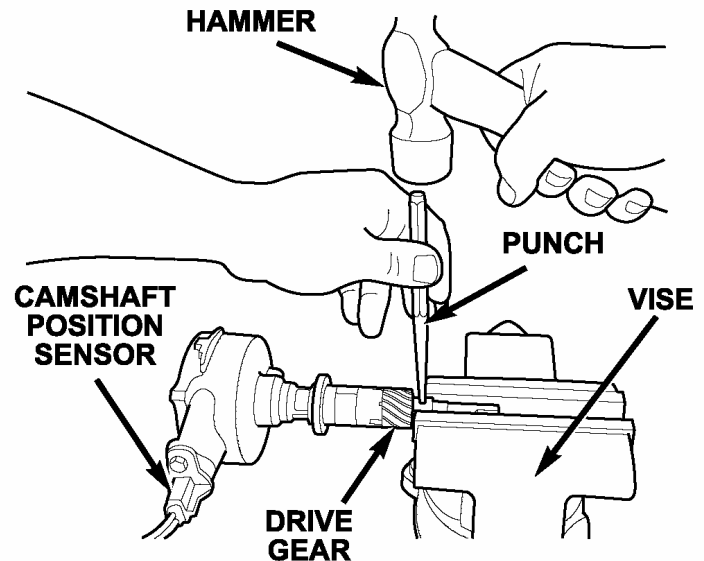

Figure 20
- a. With the drive gear clamped in a vise, drive out the roll pin that holds the drive gear to the shaft (Figure 20).